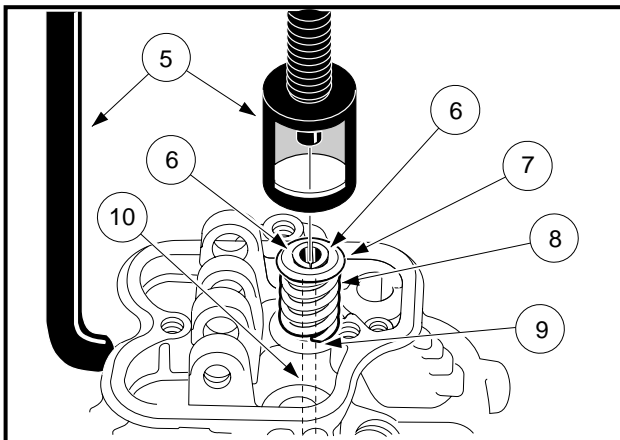
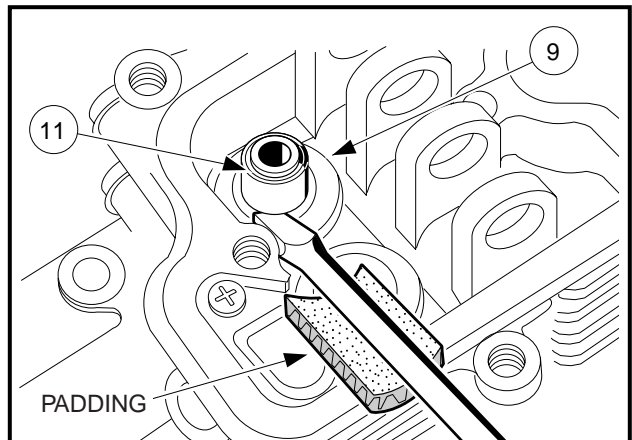

Figure 13-14 Valve Removal
Figure 13-15 Spring Seat Removal
1. Compress the valve spring with the valve spring compressor (5) (CCI 101641101) and remove the collet halves (6) (**Figure 13-14, Page 13-11**).
2. Remove spring compressor, and take out the upper retainer (7) and the spring (8).
3. Remove valve (10).
4. Remove valve stem seal (11) with a screwdriver (**Figure 13-15, Page 13-11**). See following **CAUTION**.
- To keep the screwdriver from damaging the cylinder head flange surface, place a piece of heavy cardboard or wood between them (**Figure 13-15, Page 13-11**).
5. Remove spring seat (9) (**Figure 13-15, Page 13-11**).